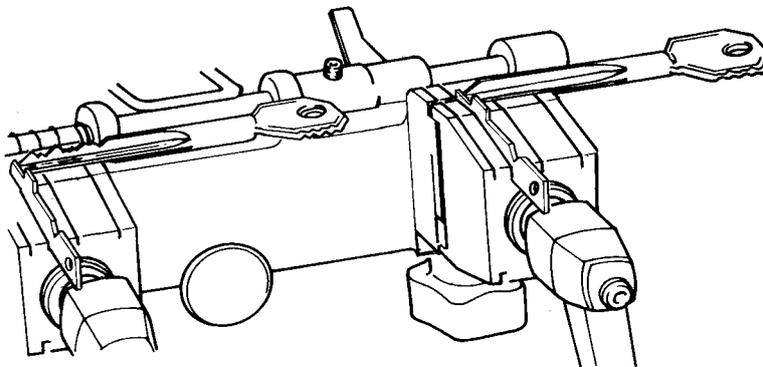

Fig. 11
- 3) Butt the key stop against the bars (fig. 11).